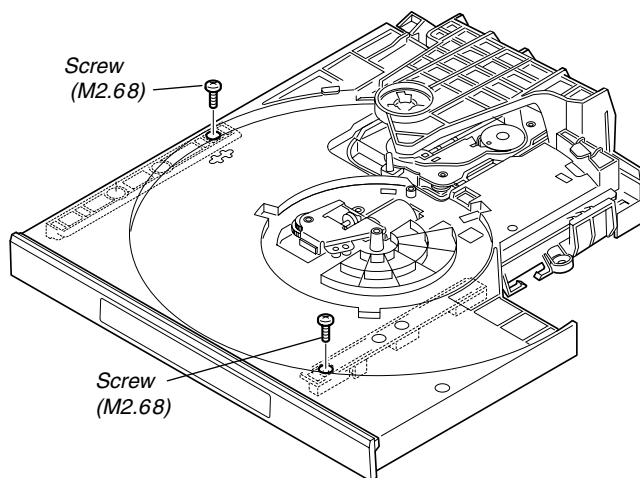

Fig. 3.
- 1) Remove the two screws. (See Fig. 3)